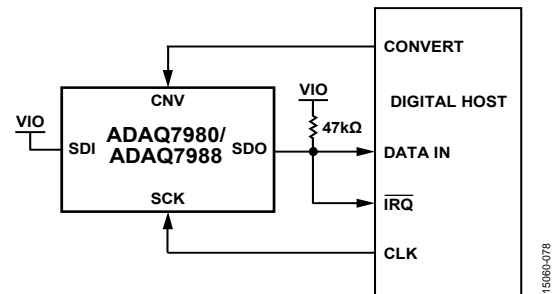
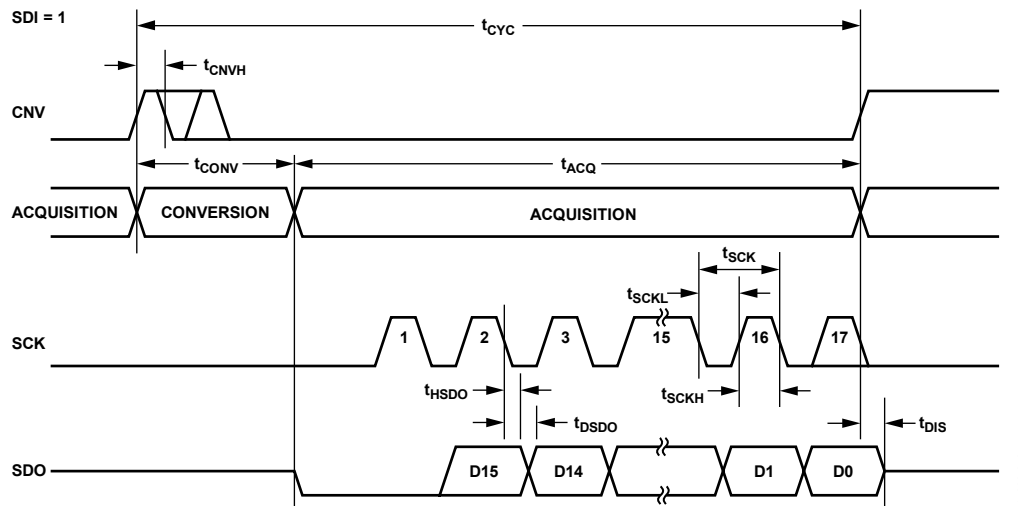
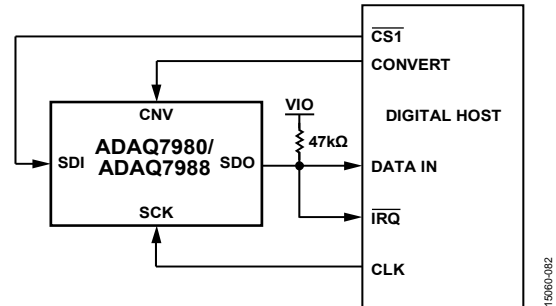
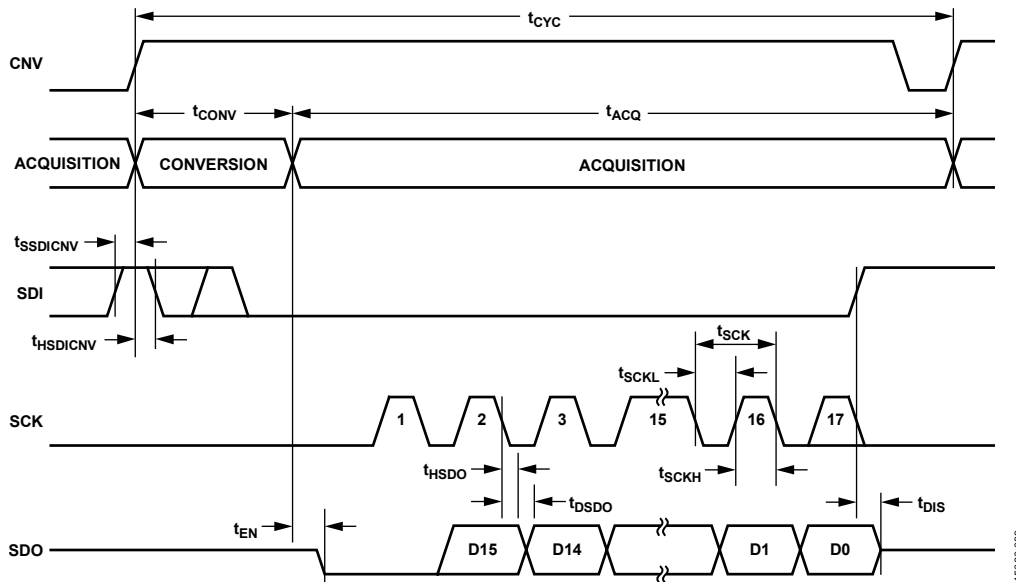

Figure 73. 3-Wire \overline{CS} Mode with the Busy Indicator Connection Diagram (SDI = 1, High)
Figure 74. 3-Wire \overline{CS} Mode with the Busy Indicator Serial Interface Timing (SDI = 1, High)
Figure 77. 4-Wire $\overline{\text{CS}}$ Mode with the Busy Indicator Connection Diagram
Figure 78. 4-Wire $\overline{\text{CS}}$ Mode with the Busy Indicator Serial Interface Timing
- In $\overline{\text{CS}}$ mode if CNV or SDI is low when the ADC conversion ends (see Figure 74 and Figure 78).
Figure 73 shows the connection diagram, and Figure 74 shows the corresponding timing.
Figure 77 shows the connection diagram, and Figure 78 shows the corresponding timing.